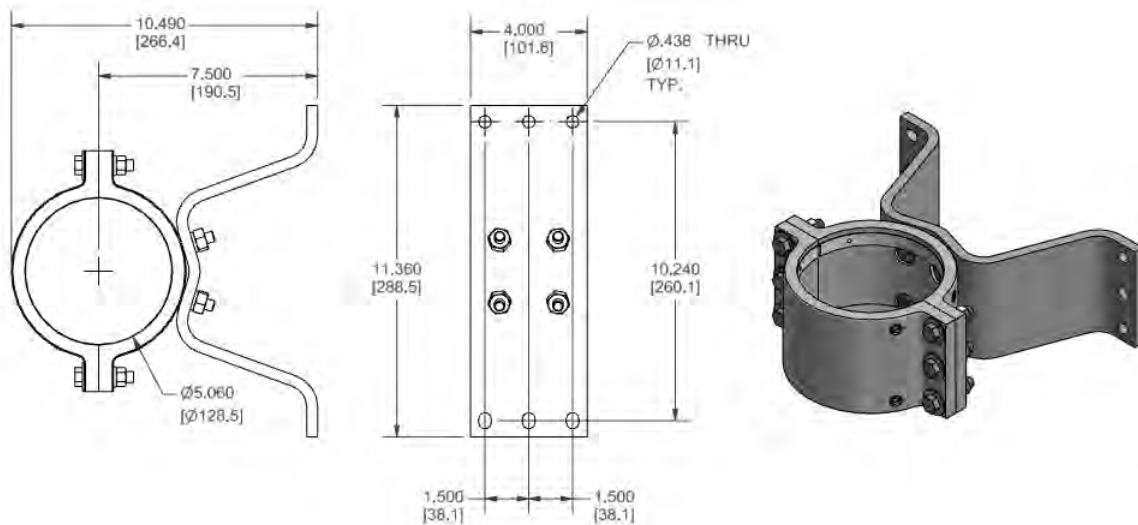

Figure 5-8 Support Bracket Mounting Dimensions
1. Using the dimensions shown in Figure 5-8 or using the support bracket as a template, drill six holes to mount the support bracket. The support bracket should be at least 1 inch (25 mm) above the weep hole and at least 3 inches (76 mm) below the collar. The support bracket should be as high as possible on the mast and not block the weep hole.